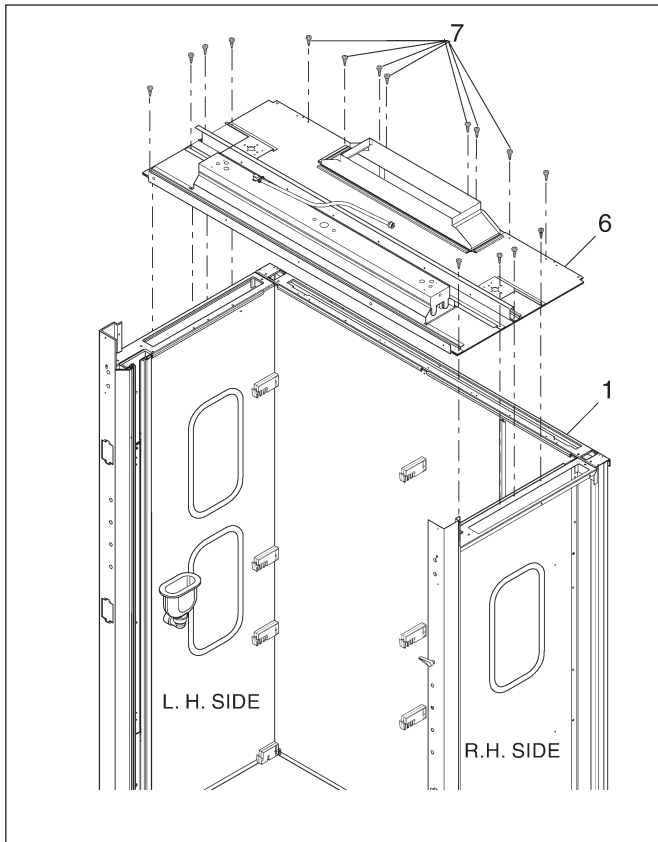

**Figure 11**
**(B) Fume Hood Assembly**
**Refer to Figure 11**
2. Locate the left hand side assembly panel (2) and the back assembly (1).
3. Stand the back panel (1) in a vertical position. Slide the side panel (2) into the end of the back panel assembly. Make sure the angled flange on the side panel (2) fits between back panel and horizontal members of back panel assembly (1).
4. Align the two holes at the top and bottom of the panels and secure with No. 8 x 3/4" phillips pan head screws (3).